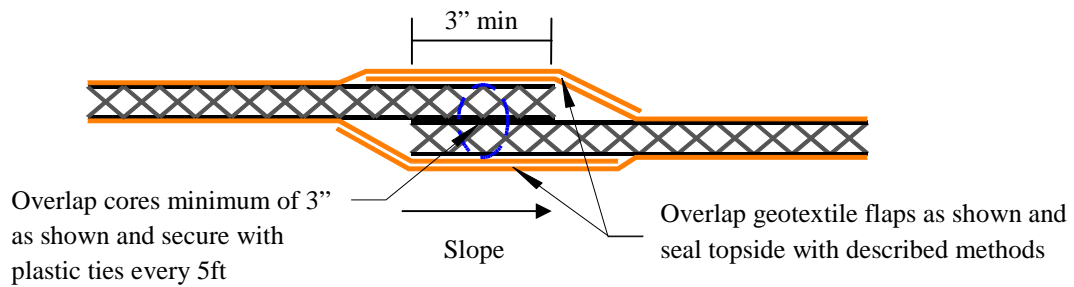
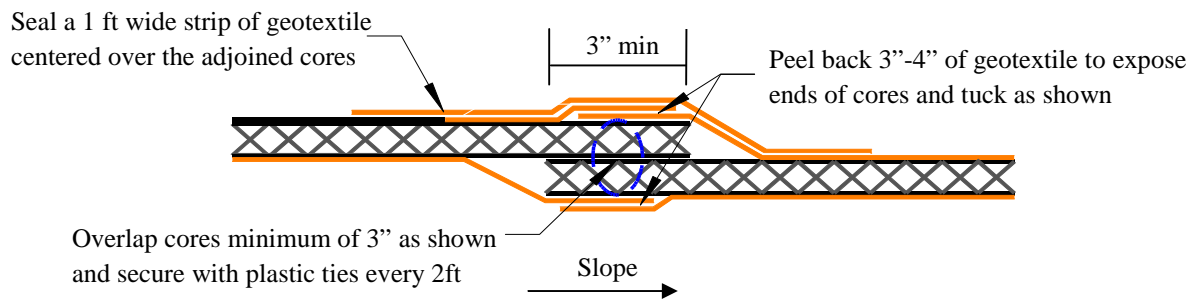
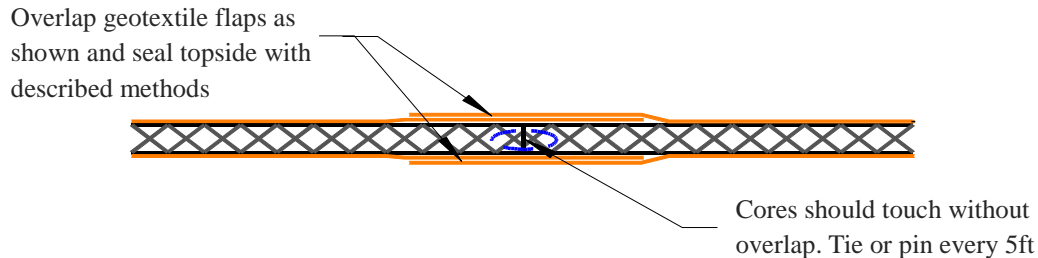

Figure 3. Seaming Adjacent Rolls Along Their Length
Figure 4. Seaming Rolls End to End
Figure 5. Seaming Adjacent Rolls Butted Along Their Roll Length
6. Drainage cores of adjacent panels and end to end panels should overlap 3" as shown in figures 3 & 4. When placed over a very stiff subgrade, the cores may be butt tight together without overlap as shown in figures 5 & 6.
- To prevent soil from entering the drainage core, adjacent panels shall be seamed by tucking and overlapping the flaps as shown in figure 3. End to end rolls and cut rolls (no geotextile flap) will require a separate strip of nonwoven geotextile be placed over the seam as shown in figure 4.
Damage to the geonet portion of the deployed geocomposite shall be patched by placing a geonet or geocomposite patch extending 12 inches beyond the edges of the damaged area. The patch shall be secured to the original geonet by tying every 6 inches with approved tying devices. If the damage on the geonet portion of the deployed geocomposite is more than 50 percent of the width of the roll, this entire full width section shall be cut out, and the two portions of the geonet (end to end) shall be joined as explained above in figure 4.